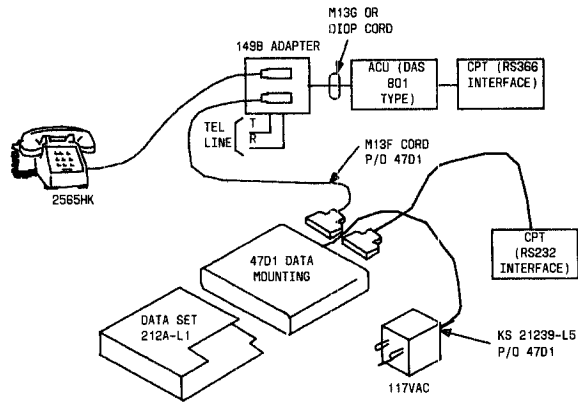
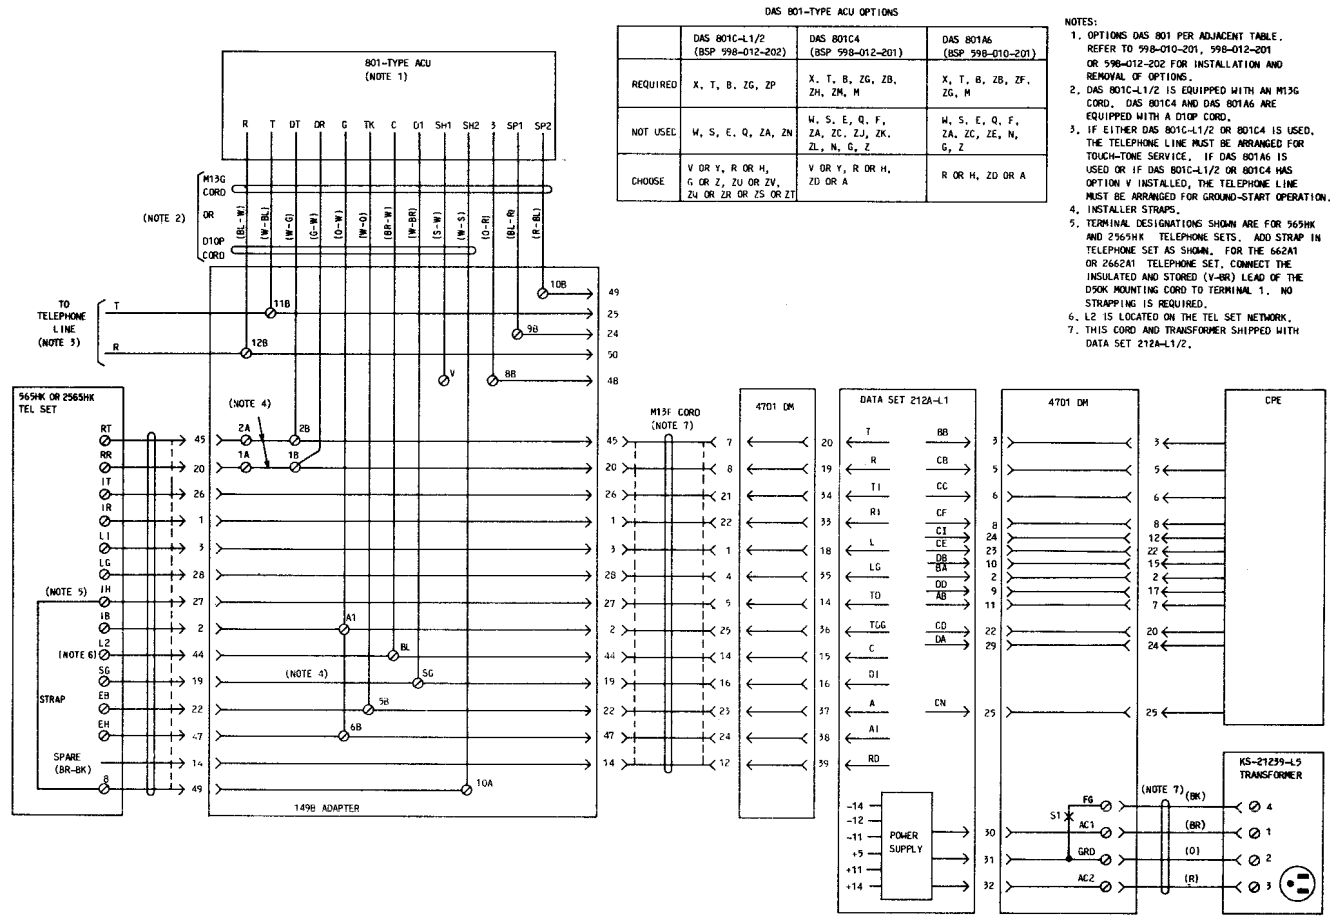
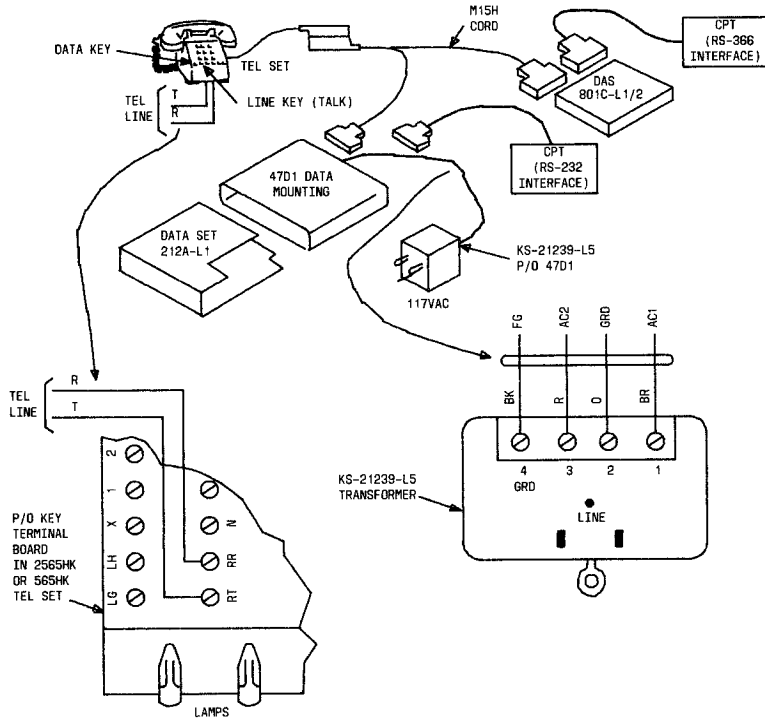

Fig. 6—Installation of DS 212A-L1/2 With an ACU
Fig. 7—Connection Wiring for DS 212A-L1/2 With an ACU
Fig. 8—Alternate Method of Installing DS 212A-L1/2 With 801C-L1/2 ACU
**4.05 DS 212A-L1A/2A With ACU:** When a single DS 212A-L1A/2A is installed with an ACU, connect cables and connect tip and ring as shown in Fig. 6. Figure 7 provides detailed wiring which may be useful in troubleshooting this arrangement. Figure 8 shows an alternate connection which requires an M15H cord (order separately).